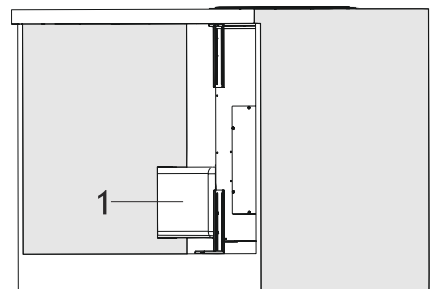

Fig. 22
13. ➔ Make air exhaust pipe connection using a suitable dimensioned rectangular pipe (Fig. 22).